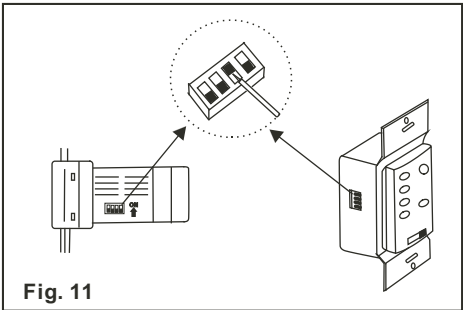

Fig. 11
**NOTE:** The Hand Held Remote or Wall Control units included with your ceiling fan are equipped with 16 code combinations to prevent possible interference from or to other remote units. The frequency switches on your Receiver and Transmitter units have been preset at the factory, please re-check to make sure the switches on both units are set to the same positions. The frequency settings should be changed only in case of interference or if a second or more remote controlled ceiling fans are installed in the same structure. Any code combination will operate the ceiling fan and light as long as the Receiver and Transmitter units are set to the same codes (Fig. 11)